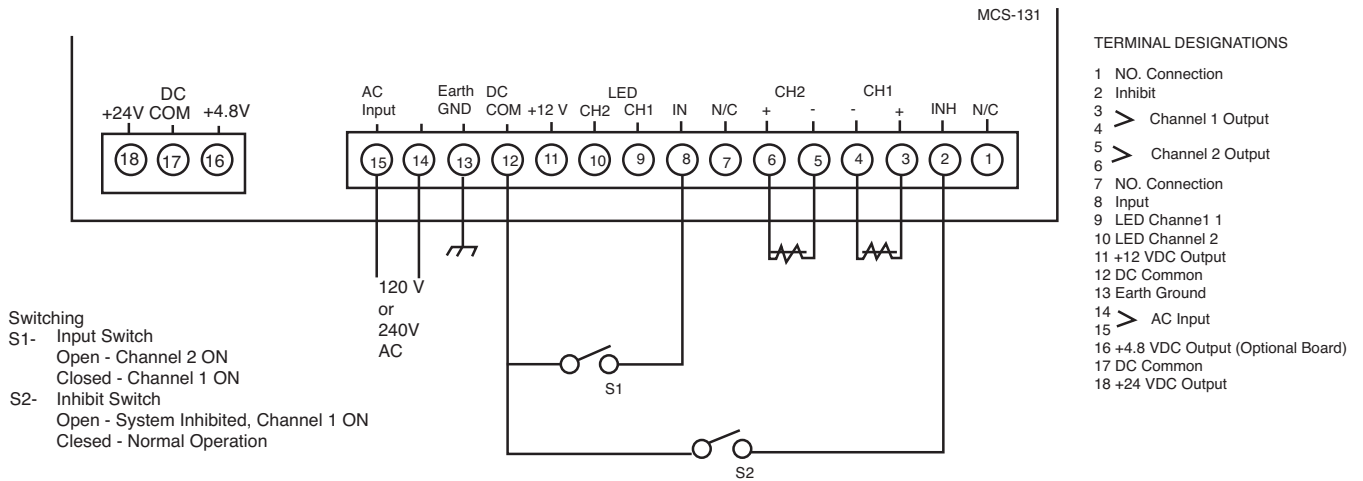

Figure 2 - Basic Control with Switch Inputs
In basic control mode, only inhibit and input terminals are used for switching. See Figure 2.
- a. For Basic Control Switching, use Figure 2.
Basic Control without interface options, per Figure 2.